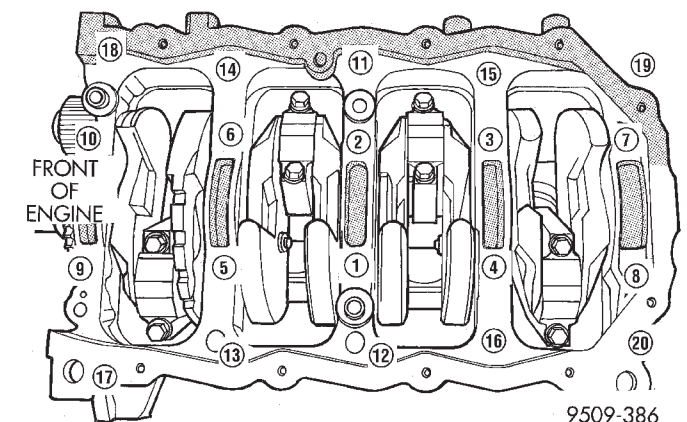

Fig. 14 Main Bearing Caps/Bedplate TorqueSequence
(7) Install main bearing bedplate to engine block bolts 11, 17 and 20 finger tight. Tighten these bolts down together until the bedplate contacts the cylinder block. Then torque these bolts to 28 N·m (20 ft. lbs.).
(8) Install main bearing bedplate to engine block bolts (1 through 10) and torque each bolt to 41 N·m (30 ft. lbs.) in sequence then in sequence turn each bolt 1/4 turn shown in (Fig. 14).
(9) Install main bearing bedplate to engine block bolts (11 through 20), and torque each bolt to 28 N·m (20 ft. lbs.) in sequence shown in (Fig. 14).
(10) After the main bearing bedplate is installed, check the crankshaft turning torque. The turning torque should not exceed 5.6 N·m (50 in. lbs.).